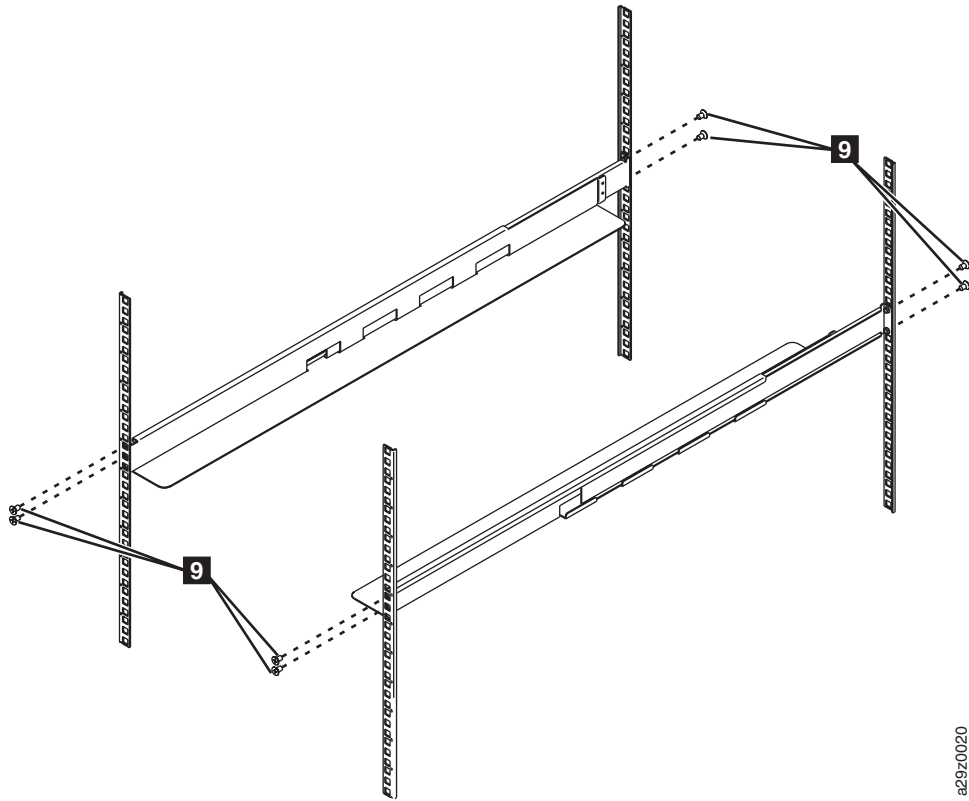

Figure 8-20. Installing the rail assemblies
5. Install the rail assemblies into the rack (Figure 8-20). Ensure the three holes in the front of the unit align with the 1U space marked on the vertical rails in Step 1. Secure the rails to the rack using four flat-head screws **9** on each side of the rack. Use both of the two screw locations on the rear of the rack rail. Use the **top** and **middle** screw locations on the front of the rack rail.